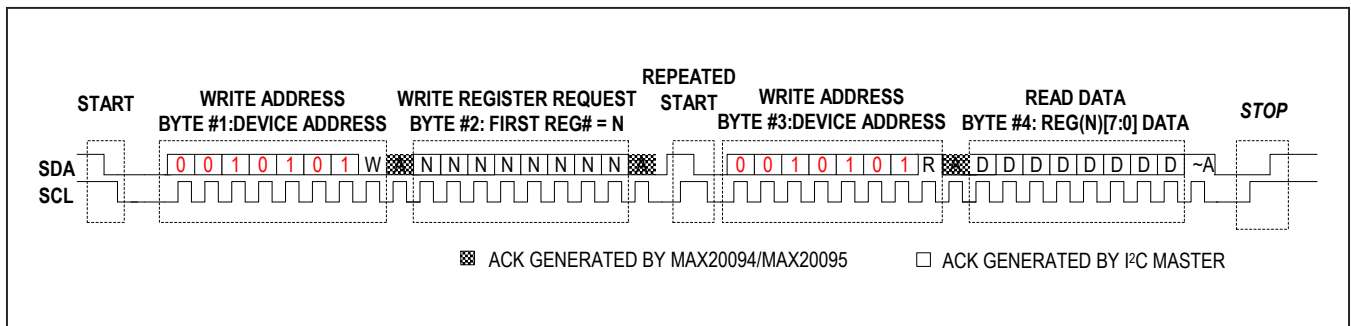

Figure 7. I2C Read Sequence
The ICs support standard combined-format I2C read-mode operations. Each receive sequence is again framed by a START (S) or Repeated START (Sr) condition and a STOP (P). Each byte is 8 bits long and is always followed by an ACK clock pulse, as shown in Figure 7. The first byte contains the address of the device, with  $R/\overline{W} = 0$  to indicate a write. The second byte contains the register that is to be read back. There is now a Repeated START (Sr) condition, followed by the device address, with  $R/\overline{W} = 1$  to indicate a read and an acknowledge (ACK) clock. The master still has control of the SCL line, but the device takes over the SDA line. The fourth byte in the frame contains the register data readback followed by a STOP (P) condition.